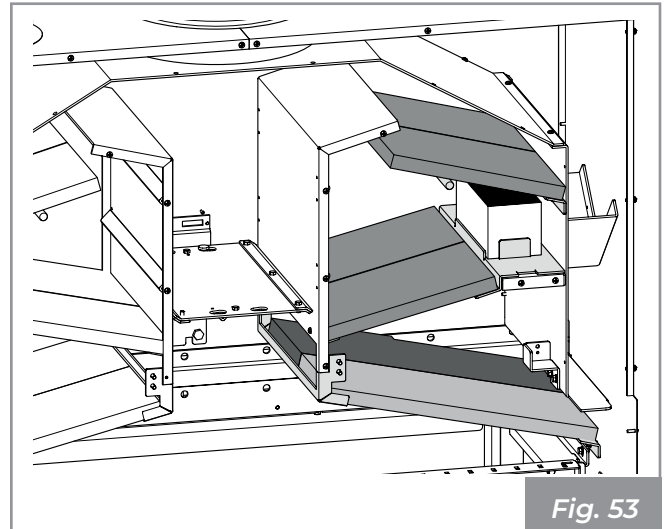

Fig. 53
- 8) Proceed in the same way on the opposite side (Fig. 53).